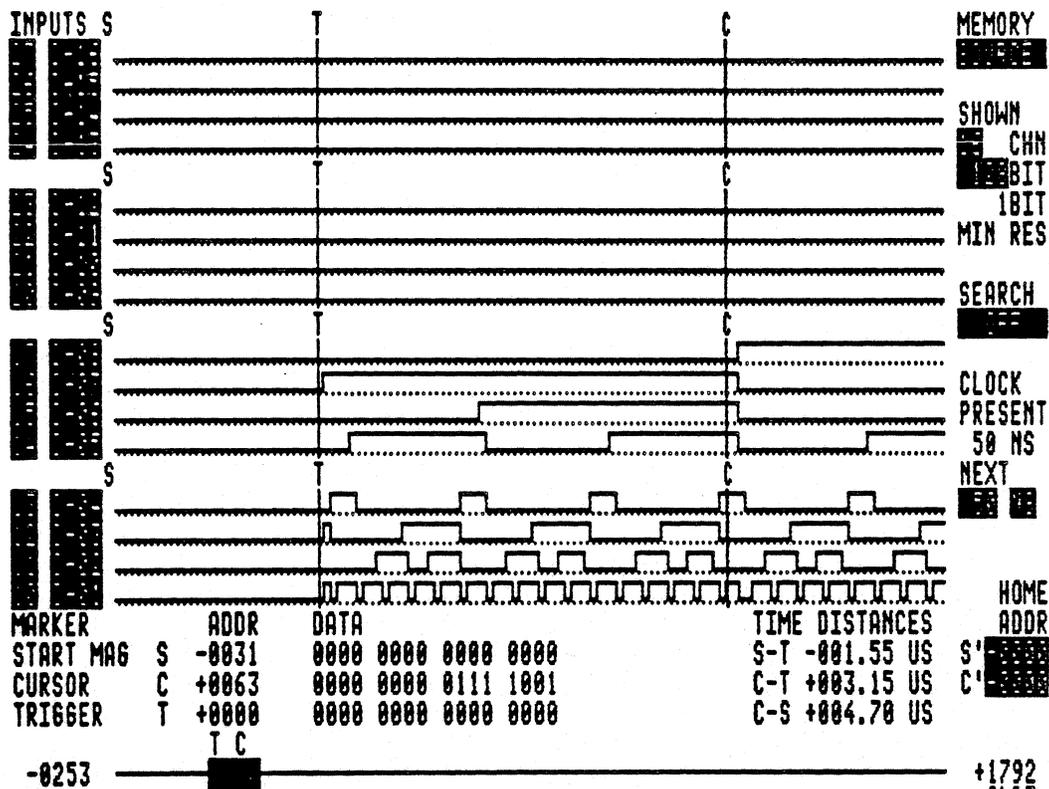

Figure 3-5 Timing Diagram Display
6. Press the white TIMING key in the upper right hand corner of the keyboard. This will display all sixteen channels of the timing diagram on the screen. The left hand column consisting of two digits represents the probe number and the input to that probe. For example, number 15 represents probe 1 and input 5 on probe 1. The input 0 is the LSB and the input 7 is the MSB. All eight inputs should have data displayed. See Figure 3-5, Timing Diagram Display. This test indicates that this portion of KLA memory and this probe are functioning properly. Call your Kontron representative, if you suspect any problems.